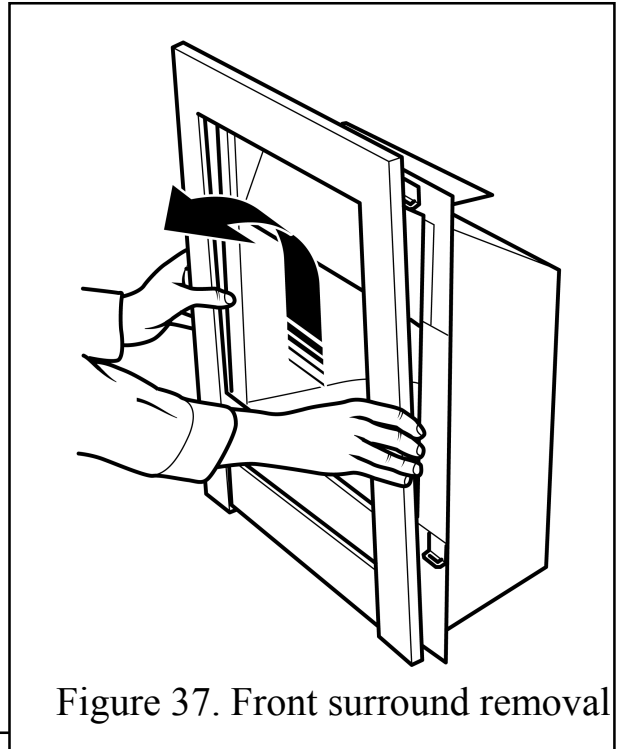

Figure 37. Front surround removal
1. The surround is held in place by four retaining plates at the back of the surround. These slot into four retaining brackets on the hotbox. To remove the surround, hold the sides of the surround and lift upward and forward. The surround should lift clear of the hotbox (See figure 37)